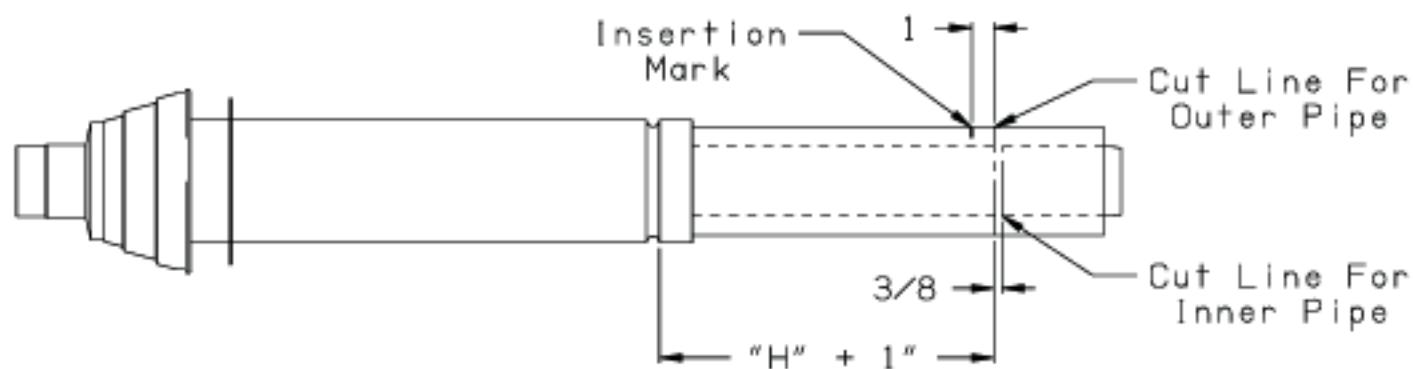

FIGURE 6.21b: CUTTING VERTICAL TERMINAL
- Add 1" to distance "H". Carefully mark this length on the pipe as shown in Figure 6.21b.
- Place a mark on the aluminum inner pipe 3/8" beyond the end of the outer pipe (Figure 6.21b). Use a fine tooth hacksaw to cut the aluminum pipe and be careful to cut the pipe square. De-burr the cut edge of the aluminum pipe with a file or emery cloth.
- Make a mark on the terminal section 1" from the cut end of the outer pipe as shown in Figure 6.21b.